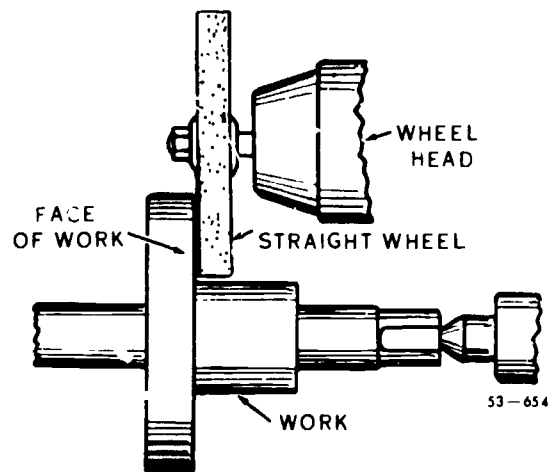

Figure 3-18 Setup for grinding a face, shoulder, or recess with a straight wheel
The straight wheel method, shown in figure 3-18 is seldom used in Air Force shops. This method is used for rough grinding only. Grinding with the side of the wheel is not efficient, since the area of contact is too large. If you must use this method, you can obtain better results by recessing the wheel.
**Shoulders and grooves.** The grinding of shoulders and grooves involves cylindrical pieces that have two or more diameters, radii, or fillets. The methods used for this type of grinding are essentially the same as described in face grinding except that, in plain face grinding, only one surface, the face, is ground. In grinding shoulders and grooves, there is usually more than one surface involved. Therefore, the cup wheel method is not as suitable as the straight wheel method, since the side of a cup wheel should not be used as a grinding face. You can, sometimes perform these operations by swiveling the wheelhead and using an angular-faced wheel. You can also use a straight wheel with the side recessed to reduce the area of contact with the shoulder. Either of these methods assures a freer cutting action than would be possible with a straight-sided wheel. If you grind straight shoulders with the side of the wheel that is not recessed, as shown in figure 3-18, use a softer grade of wheel to obtain a freer cutting action on the shoulder.